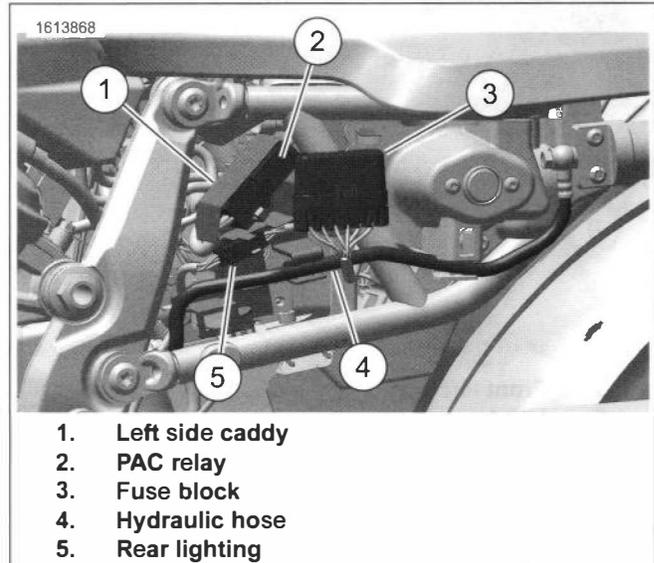
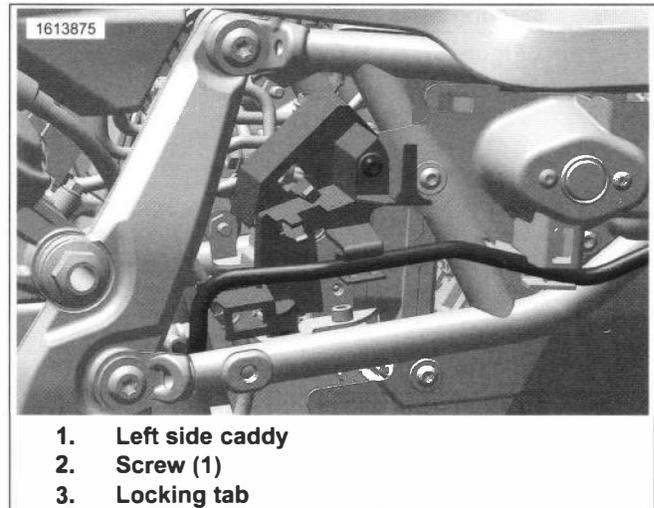

Figure 8-79. Left Side Caddy View
Figure 8-80. Left Side Caddy
1. See Figure 8-79. Detach connectors from left side caddy.
- a. PAC relay (2).
- b. Fuse block (3).
- c. Hydraulic hose from retainer (4).
- d. Rear lighting (5).
2. See Figure 8-80. Remove screw (2).
3. Rotate left side caddy (1) and release caddy locking tab (3).
1. See Figure 8-80. Position left side caddy, install screw. Tighten.
2. See Figure 8-79. Connect connectors:
- a. Rear lighting (5).
- b. Hydraulic hose into retainer (4).
- c. Fuse block (3).
- d. PAC relay (2).